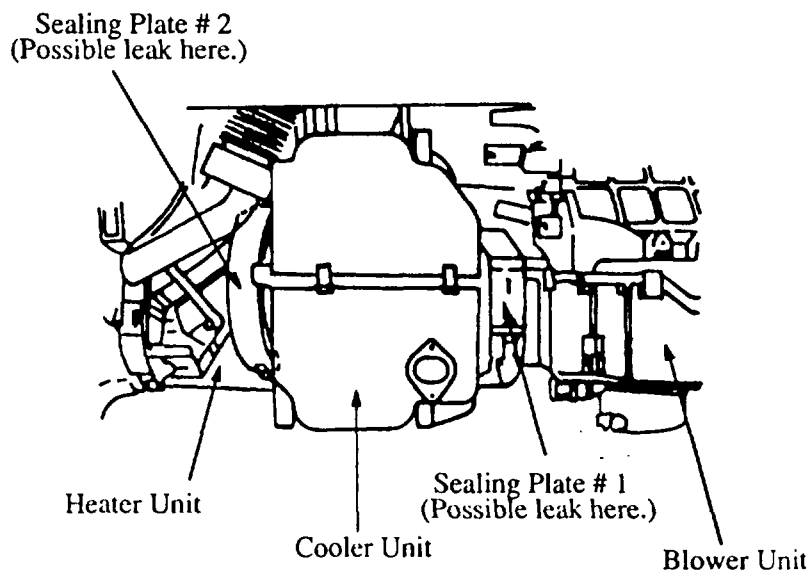

Figure 1: A/C System
1. Remove the glove box. If the vehicle is equipped with A/C, see **Figure 1**. If the vehicle has no A/C, refer to **Figure 2**.
- Make sure the 2 hooks of the sealing plate # 1 (Figure 1) attach properly on the blower case. If not, adjust the hook and lock.
1. Make sure the 2 hooks of the sealing plate # 2 (Figure 1) attach properly on the heater housing. Inspect the upper hook closely because it is more difficult to attach. If necessary, readjust the hook and lock.